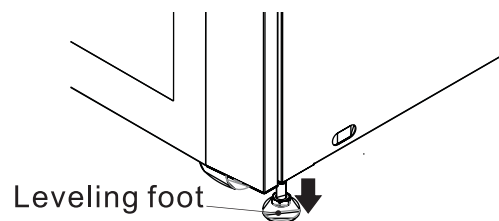

Figure 4.5
5. Once the UPS is in final position, rotate the leveling feet clockwise below the level of the casters to secure in place (Figure 4.5). Do not rest the UPS permanently on the casters.